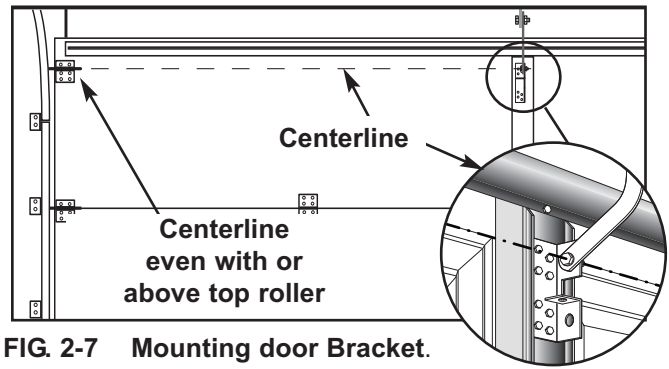

FIG. 2-7 Mounting door Bracket.
- Door bracket is mounted as high on door as possible along vertical centerline and NO LOWER THAN top set of rollers (Fig. 2-7).